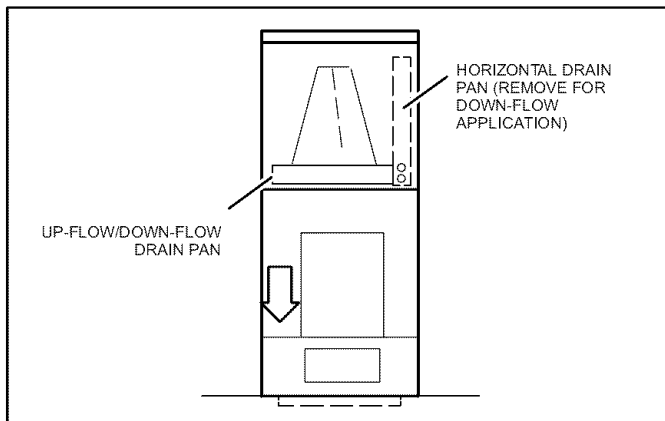

Figure 7. Down-flow Air Discharge Position
- Step 3. Remove the horizontal drain pan to ensure peak operating efficiency and proper air flow in the down-flow position as illustrated in figure 7.